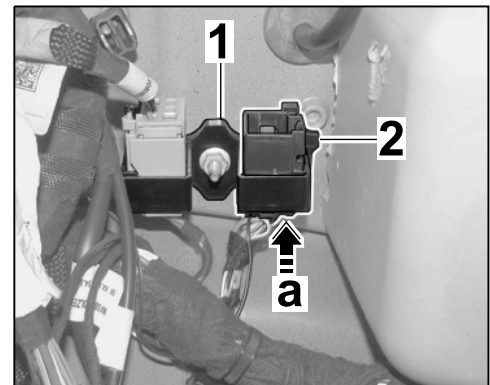

Figure 11
- 2.3.4 Fit pin connector socket ⇒ *Figure 11-1-* into the holder ⇒ *Figure 11-2-* (⇒ *Figure 11-a-*).